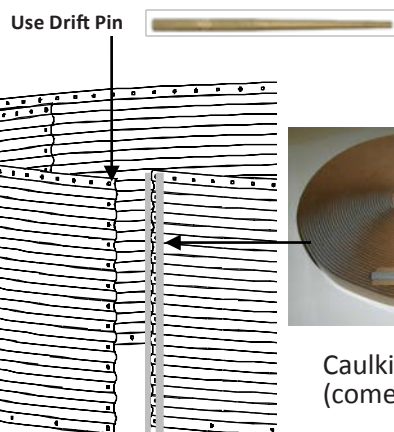

Figure 10
3. Apply the caulking putty to the inside of the hopper sheets, (where they join and form a seam), along both sides of the holes as shown in Figure 10.
4. Place the caulked end to the inside or behind the un-caulked end of each adjacent hopper sheet as shown in Figure 10. **Use a drift pin/AWL to align corner holes.**